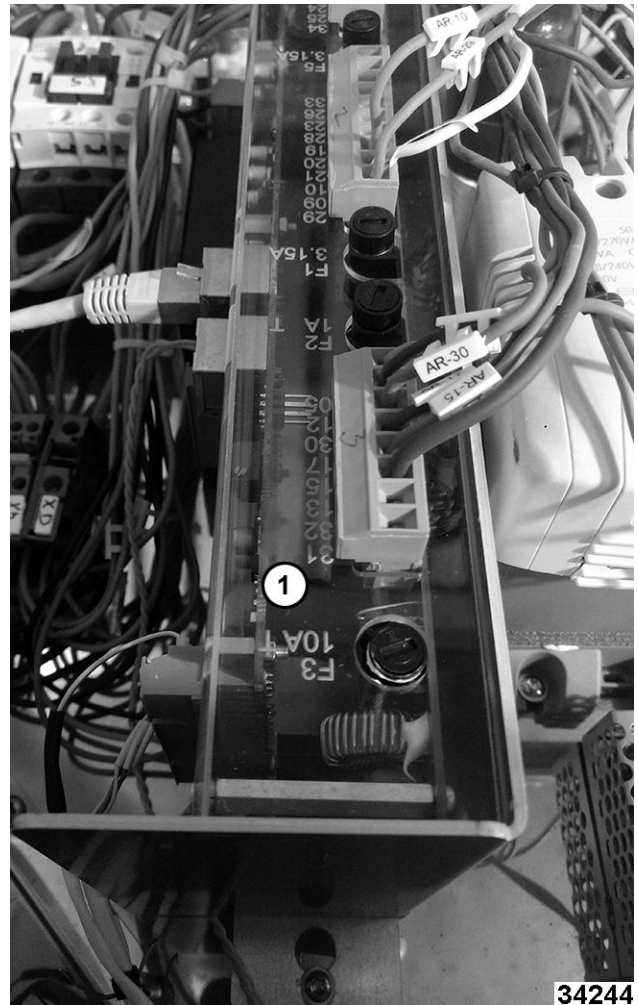

Fig. 11
2. Note and disconnect connectors from output control assembly (1, Fig. 11).